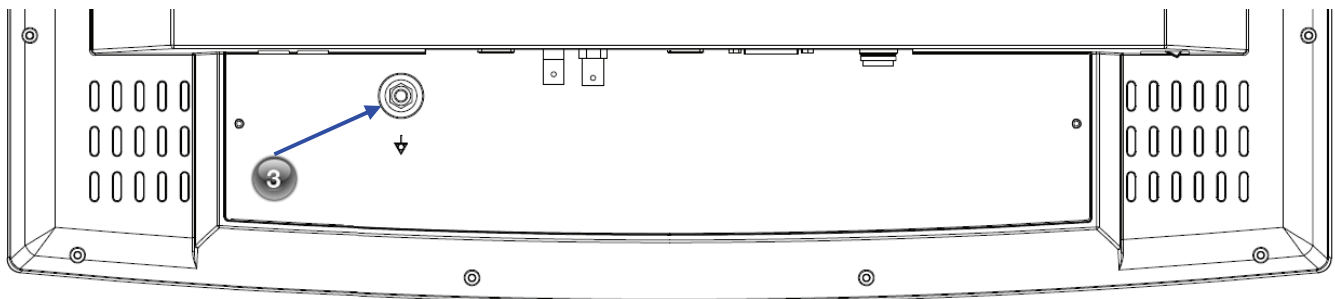

Figure 3 Cable Cover
3. Place the cable cover (Figure 3) on the flat surface below the connector panel (Figure 2). Slide the cable cover up until the tabs along the front of the cover (Figure 3) are seated in the slots at the top of the connector panel. See figure 4 detail **4**.